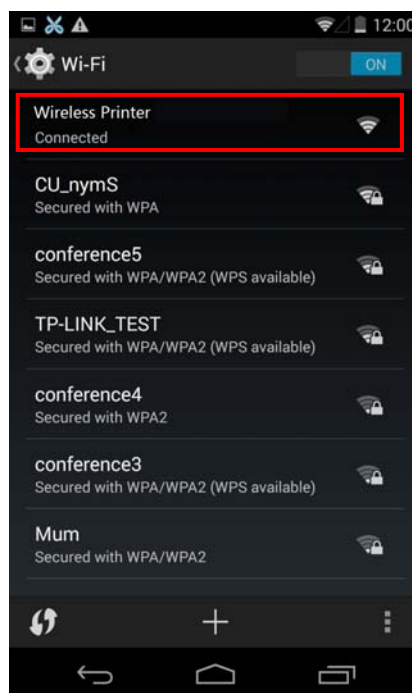

Figure 20
2.3 Select the “Wi-Fi” function to “ON”, and select the “Wireless Printer” hotspot, as shown in Figure 20.